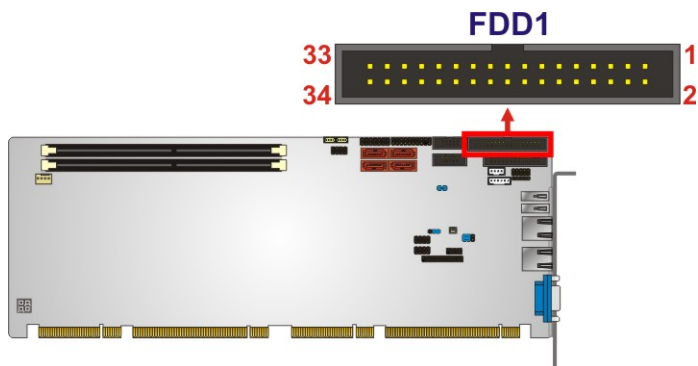

Figure 3-9: Floppy Disk Location
- CN Location:** See **Figure 3-9**